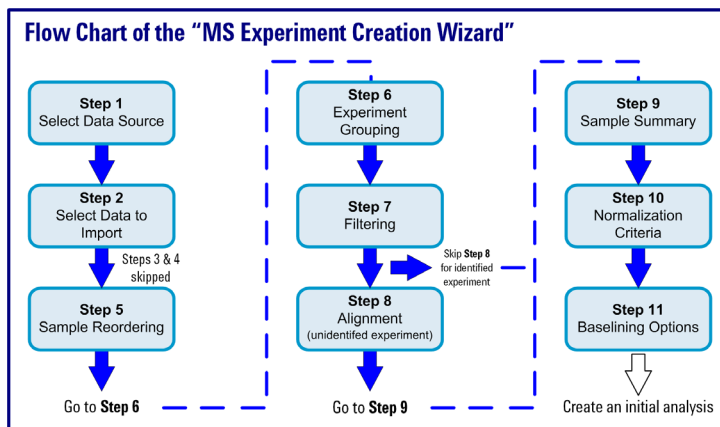

Figure 26 Steps performed by the MS Experiment Creation Wizard
After you set up your project and create an experiment, the MS Experiment Creation Wizard (Figure 26) immediately guides you through the nine (9) of eleven (11) steps to organize your experiment, import your data, define your experiment variables, and prepare your data for analysis; data preparation includes grouping, filtering, alignment, normalization, and baselining.